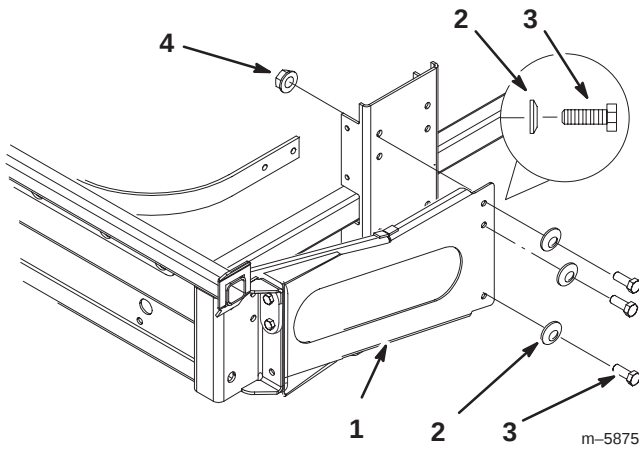

Figure 6
1. Install the side plates to the side of the mower using 6 bolts (3/8 x 1 in.), 6 curved washers (3/8 in.), and 6 flange nuts (3/8 in.) (Fig. 6).
Note: Make sure the curved washers are installed as shown in figure 6.
4. Tighten the side brackets to the side of the mower (Fig. 6).